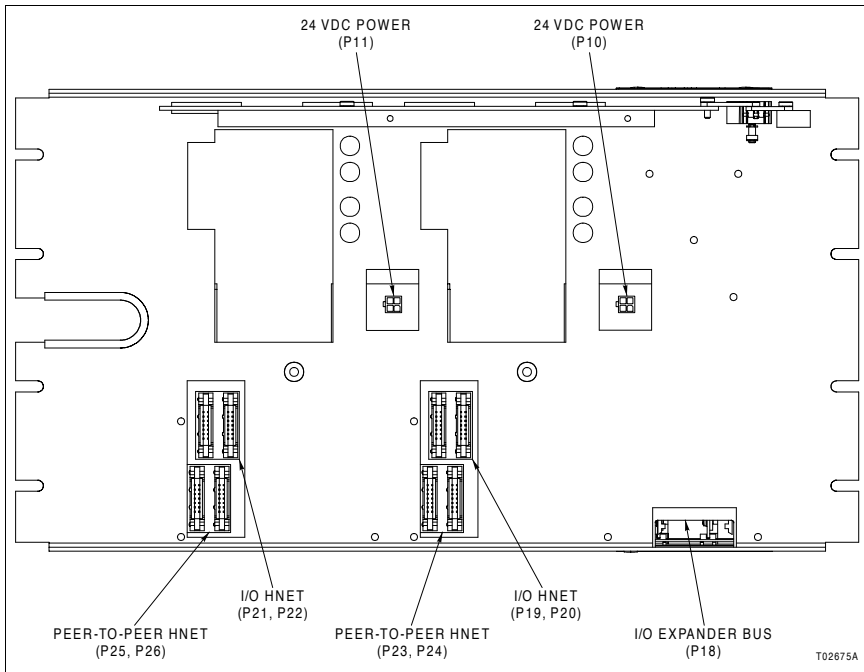

Figure PR19-1. Docking Station Connectors
- 3. Disconnect the power cables from the back of the docking station (Fig. PR19-1). Or, disconnect the power cables from the IPCHS02 Power Module Chassis.